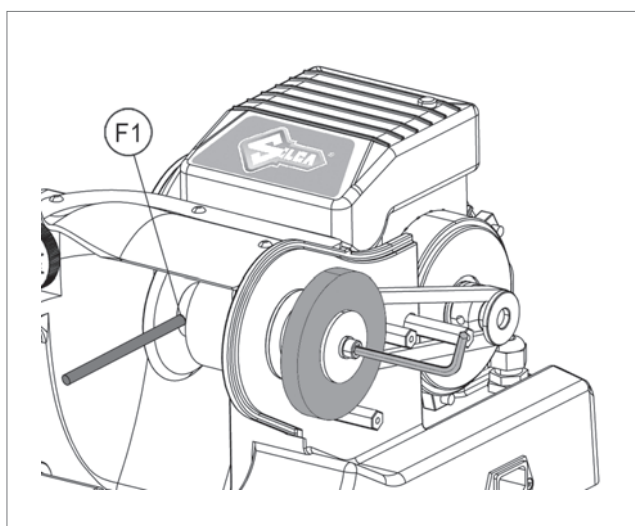

Fig. 50
- 2) Slot the locking rod (provided) into the hole (F1) of the cutting tool shaft (Fig. 50).
- 3) Use the Allen wrench to loosen the screw holding the brush in place (Fig. 50).
- 6) Place the cover (P) and tighten the screws (P1).